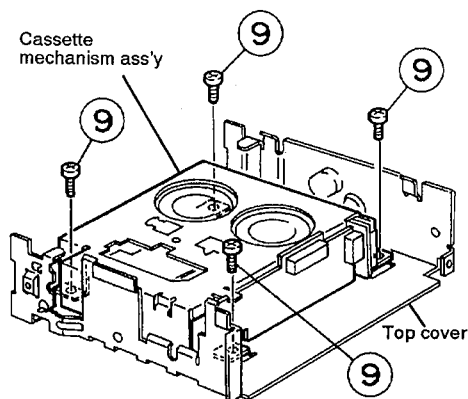
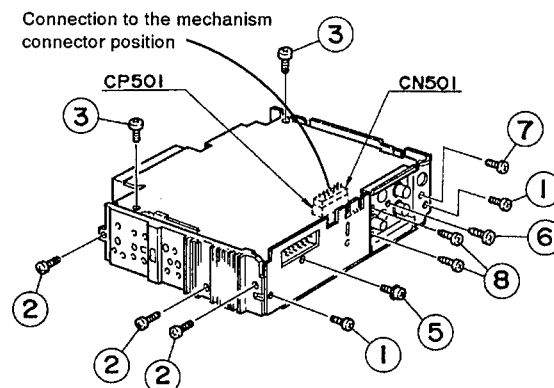

Fig. 4-5
Fig. 4-4
- ◆ **Removing the main P.C.B. assembly (with rear panel)** (See Fig. 4-4)
1. Remove two screws ① retaining the rear panel to the chassis.
2. Remove one screw ② A retaining the IC to the heat sink.
3. Remove two screws ③ retaining the main board assembly.
5. Remove two screws ② to remove the heat sink.
- ◆ **Removing the rear panel** (See Fig. 4-4)
- Remove one screw ⑤ to remove the 13-pin jack.
- Remove one screw ⑥ to remove the line-out jack.
- Remove one screw ⑦ to remove the antenna socket.
- Remove two screws ⑧ to remove the changer jack.
- ◆ **Mechanism assembly** (See Fig. 4-5)